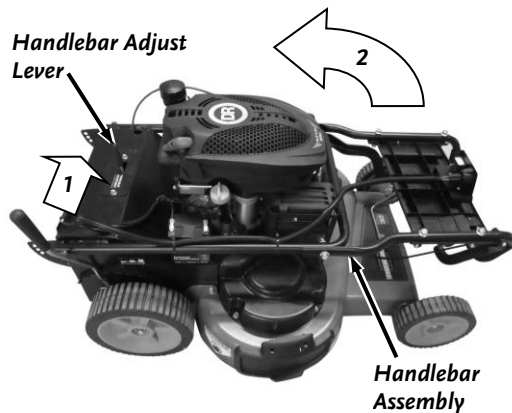

Figure 2
1. Move the Handlebar Adjust Lever to the left to release the Handlebar (*Figure 2*).